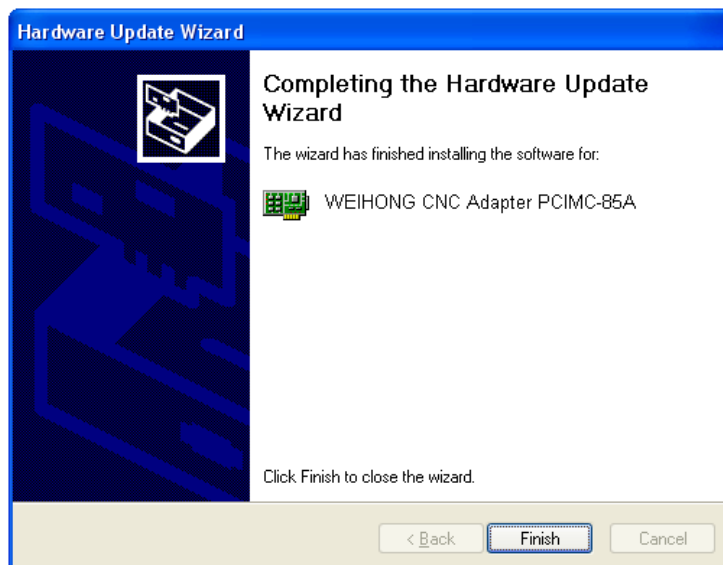

Fig. 4-8 Update driver complete
- 8) After updating completed, a new window, as shown in Fig. 4-8, appears. You just need to click “Finish” to complete the update of the hardware driver, and then you can open the software successfully.